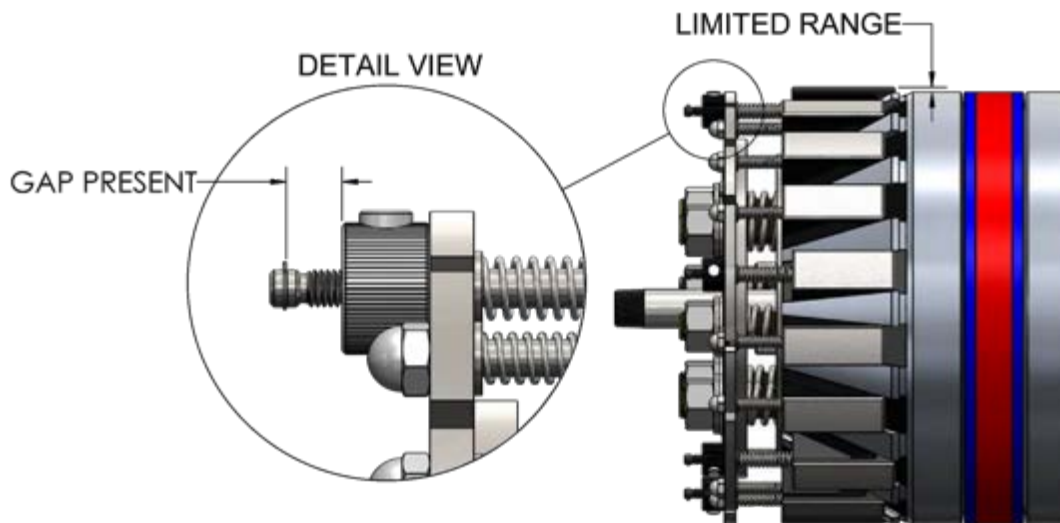

Figure 12: Selected Wedges Auto-Locking Technology **Incorrect** Ready to Install State
CAUTION: Careful attention is required to ensure that a plug fitted with SWAT is in the "Correct Ready to Install State." Figure 12, DETAIL VIEW, illustrates a plug with a gap between the **Speed Nuts (1)** and their retainer rings. In this condition, the **Wedge Grippers (4)** have a limited range, which may prevent the plug from gripping properly upon insertion. This gap must be eliminated during installation and is only permissible when removing the plug from service.